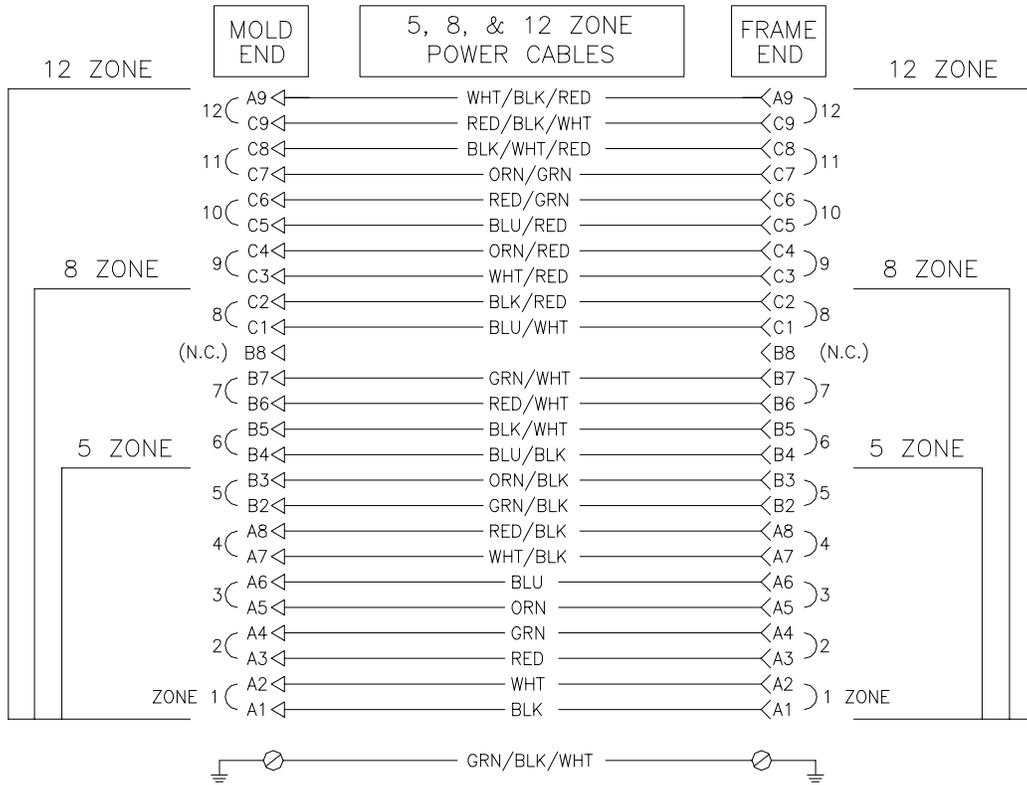

Figure 24 - Schematic of 5, 8, & 12 Zone, 15 Amp, Power Cables
- Mold power cables in 10 foot or 20 foot lengths (see below). A schematic diagram of these cables is shown in Figure 24.